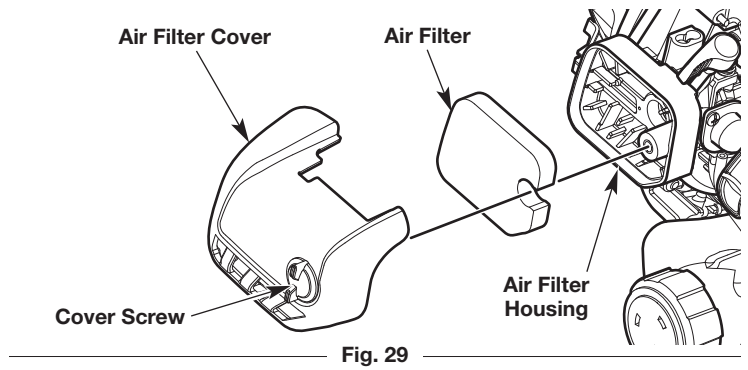

Fig. 29
1. Open the air filter cover by unscrewing the cover screw (Fig. 29).
2. Remove the air filter from the air filter housing (Fig. 29).
6. Reinstall the air filter in the air filter housing (Fig. 29).